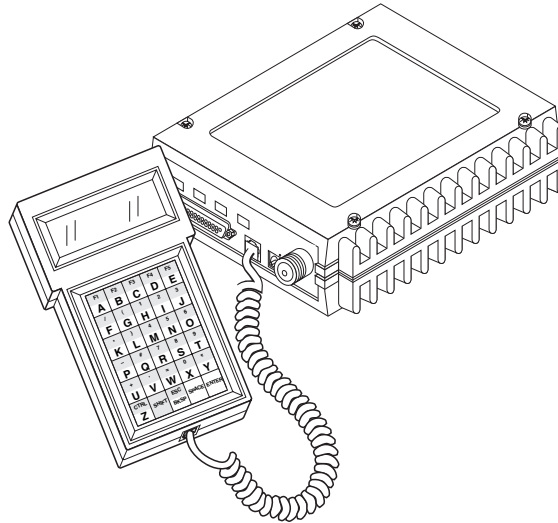

Figure 10. Hand-Held Terminal Connected to the Transceiver
1. Connect the HHT's coiled cord to the DIAG. (RJ-11) jack on the radio as shown in Figure 10. This automatically places the radio into the control and programming mode.